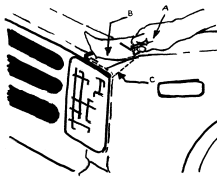

FIG. 6
b) Cut the material in from the edge towards the center several inches and overlap the excess so that the top piece overlaps the bottom piece. (See fig. 6)